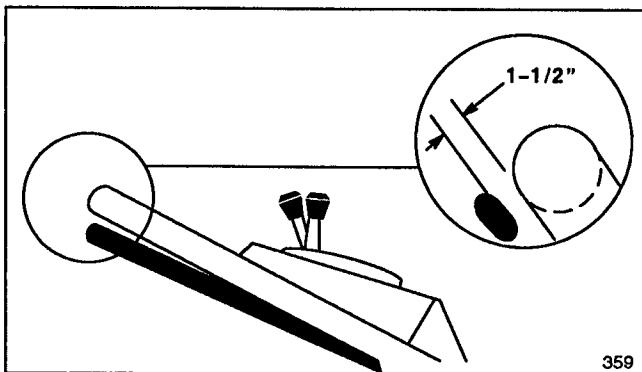

Figure 17
2. CHECK ADJUSTMENT—Adjustment is correct when rear wheels stop turning and control bar is about 1-1/2 inches from handle (Fig. 17).